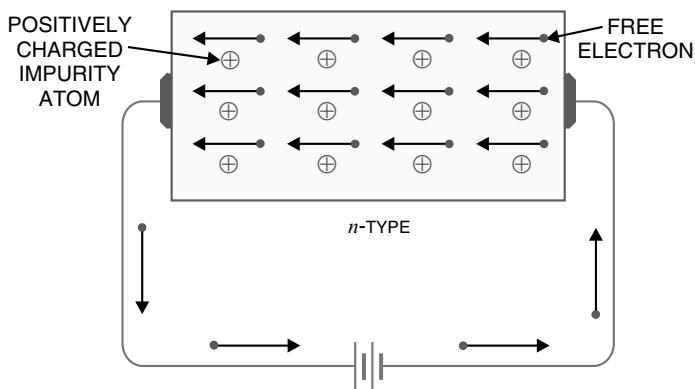

Fig. 3.13
***n*-type conductivity.** The current conduction in an *n*-type semiconductor is *predominantly* by free electrons *i.e.* negative charges and is called *n*-type or *electron type conductivity*. To understand *n*-type conductivity, refer to Fig. 3.13. When p.d. is applied across the *n*-type semiconductor, the free electrons (donated by impurity) in the crystal will be directed towards the positive terminal, constituting electric current. As the current flow through the crystal is by free electrons which are carriers of negative charge, therefore, this type of conductivity is called negative or *n*-type conductivity. It may be noted that conduction is just as in ordinary metals like copper.